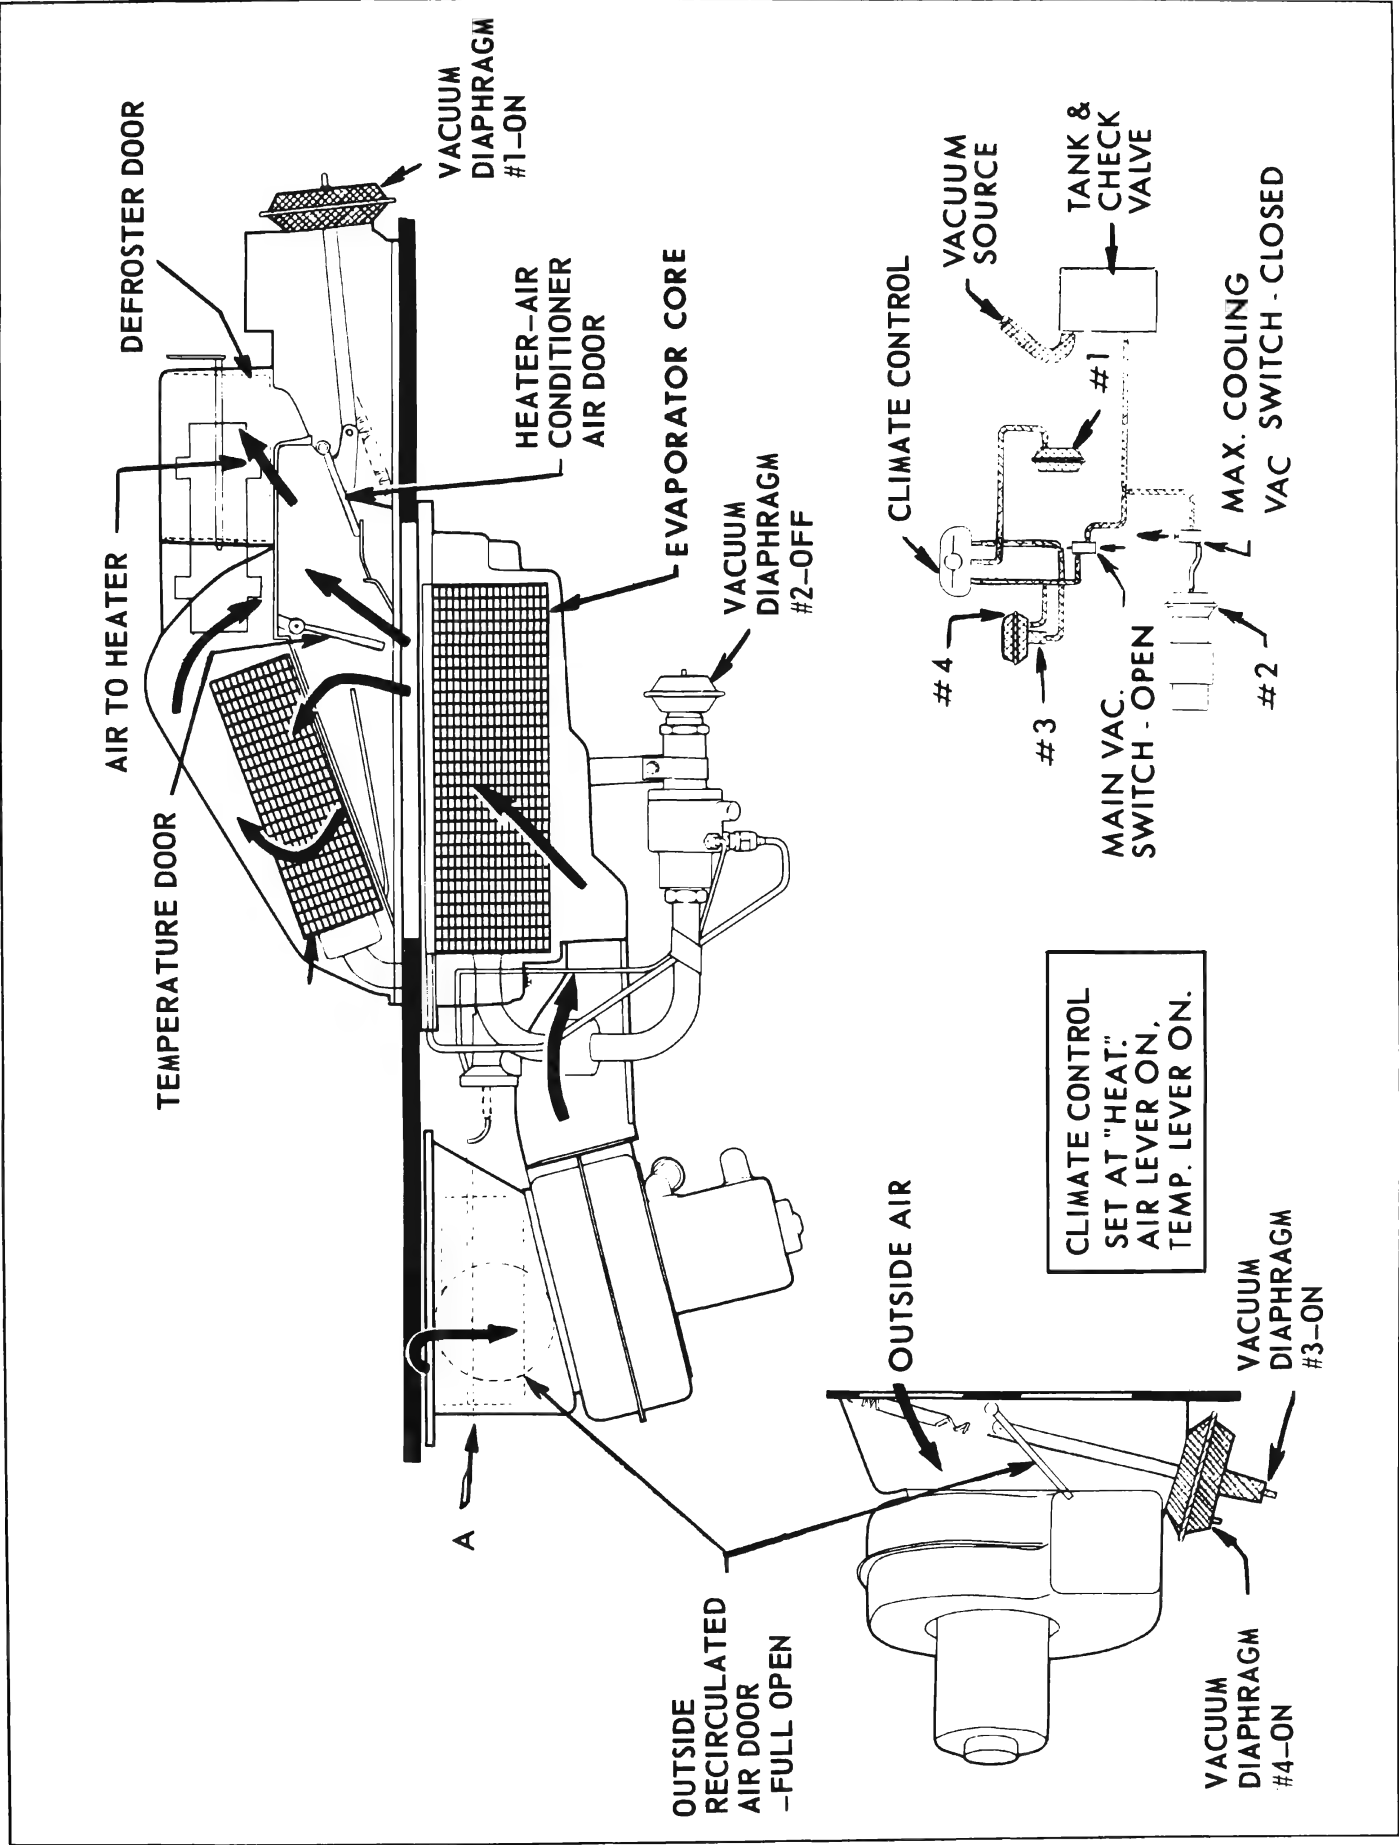

Figure 11-75—Air Conditioner Off, Heater On - 4400, 4600 and 4800 Series
The outside-recirculated air door is normally held closed by a spring. When vacuum is applied to the #4 section of the dual stage vacuum diaphragm, it is positioned at the recirculated or one-fourth open position. When vacuum is applied to both the #3 and #4 sections of the dual diaphragm, the air door is pulled to the full open or outside air position. See Figure 11-75.
- When climate control is set at HEAT, the AIR and TEMP levers are moved forward from the off position for heater operation. The main vacuum switch is opened which allows vacuum to be present at the #4 vacuum diaphragm and climate control. The climate control allows vacuum at the #1 and #3 vacuum diaphragms. Thus, the outside-recirculated air door is full open and the heater-air conditioner air door is positioned to direct air through the heater outlets. See Figure 11-75. The first movement of the TEMP lever wire opens the manual water valve to allow water to flow through heater core, positions the temperature door to direct some air through the heater core, and closes the maximum cooling switch (which has no effect on operation of heater) Full movement of the TEMP lever provides maximum heat by positioning the